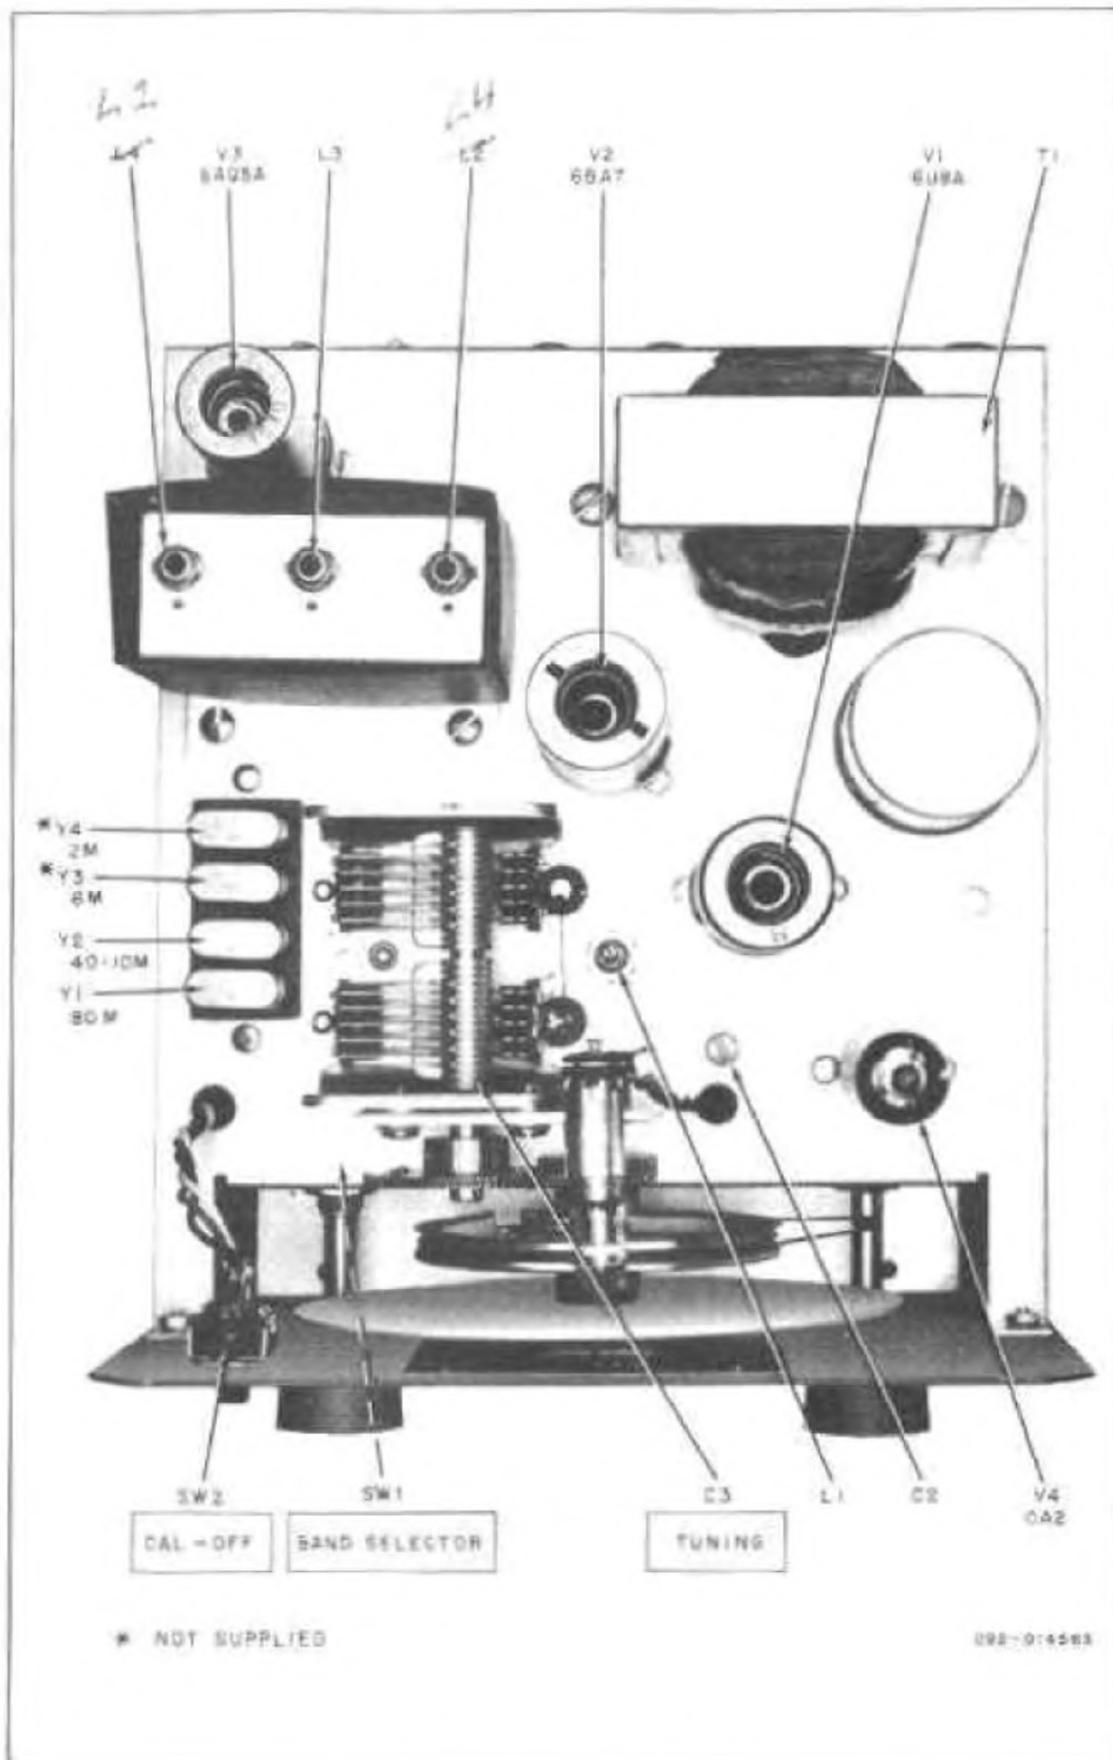

Figure 7. Top View of VFO Chassis.
12. On page -9-, figure 7, in the upper left-hand corner, change reference L4 to L2; near to the right of this, change reference L2 to L4.
To gain access to the tubes and dial lamps, remove the chassis from the cabinet (see paragraph 6-2). The location of the crystals, tubes, and the dial lamp is shown in figure 7.